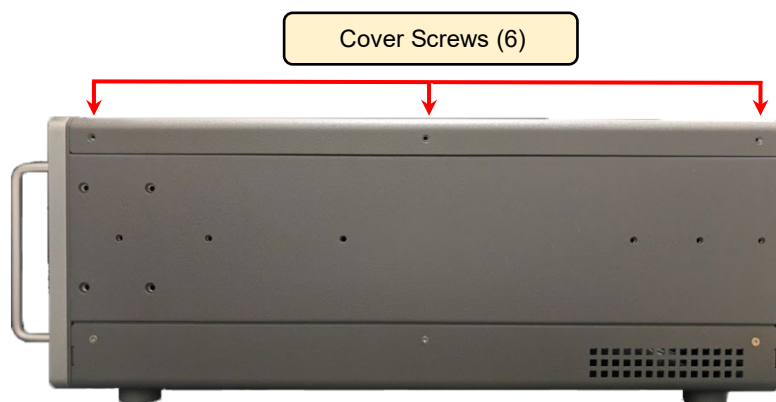

Figure 4: Cover Removal
3. Remove the small piece of foam from around the input bulkhead by sliding it toward the right side of the analyzer (Figure 4).